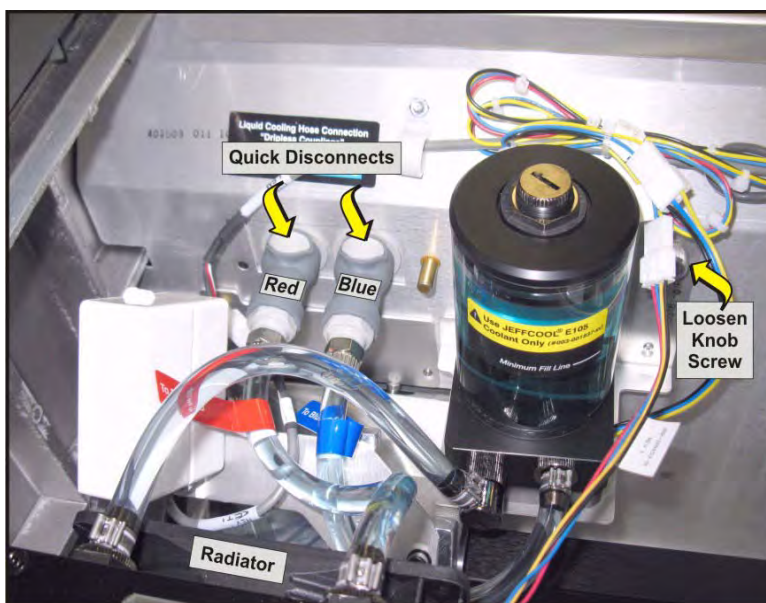

Figure 5-29 Liquid Cooling Assembly
5. Using a stubby #2 Phillips™, loosen the knob screw securing the liquid cooling assembly. **(Figure 5-29)**
6. Disconnect the two quick disconnect hoses. **(Figure 5-29)**